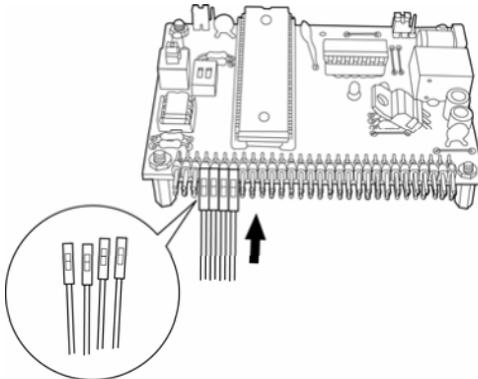

Fig. 2-18
2. Plug the loose ends into the connectors on the circuit board to be analyzed(Fig.2-18).